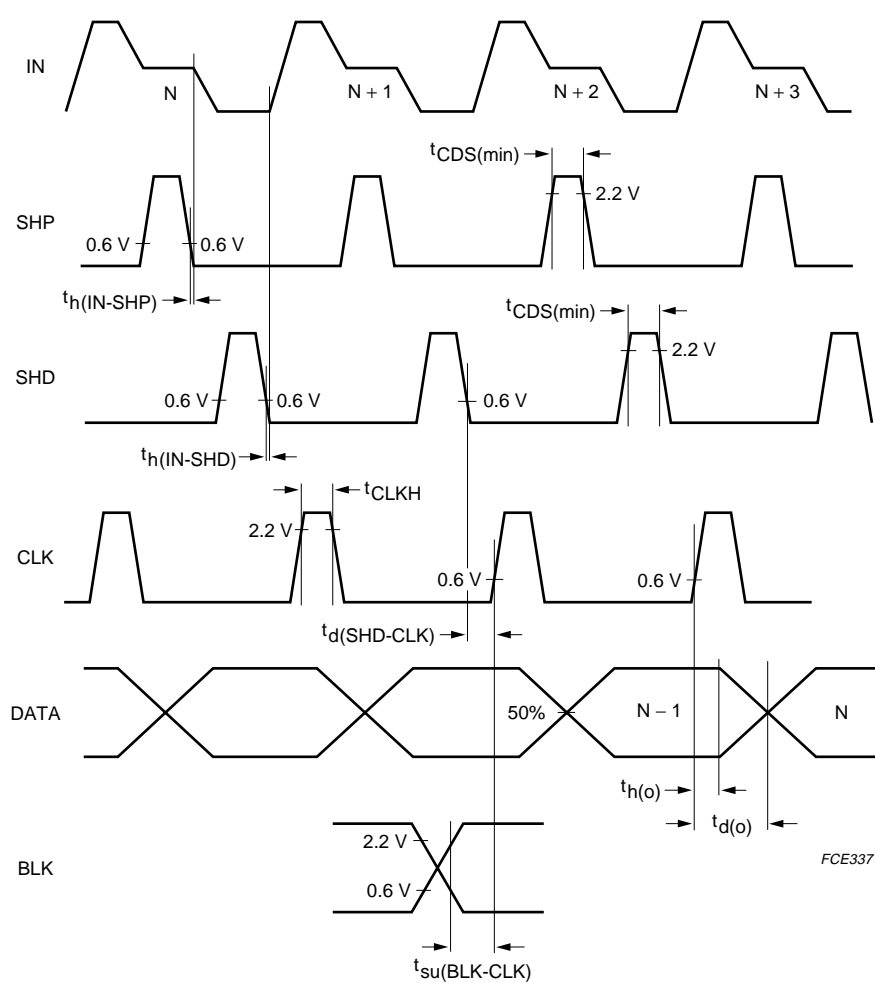

Fig.3 Pixel frequency timing diagram with active HIGH-level polarities.
Digital outputs ($f_{\text{pix}} = 18 \text{ MHz}$; $C_L = 10 \text{ pF}$); see Figs 3 and 4
- (1) Pins SEN and VSYNC should be interconnected when no vertical synchronization signal is available, while control pin VSYNC should be programmed by serial interface as LOW-level active.
- (2) The timing of the signals on pins IN, SHD and SHP has to comply with the hold times $t_{h(IN-SHP)}$ and $t_{h(IN-SHD)}$ (see Fig.3).